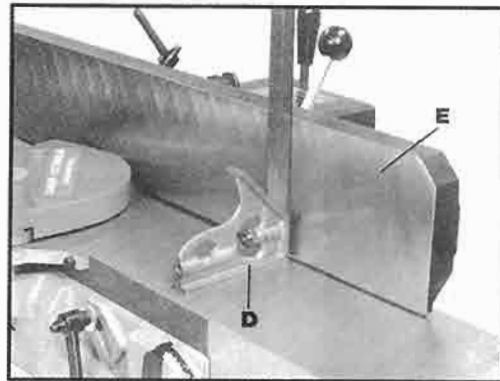

Fig. 20
To check the accuracy of the positive stops, position the fence at 90 degrees to the table by making certain the end of plunger (A) Fig. 19, is engaged in notch in the index collar (B) as shown, and tighten lockhandle (C). Place a square (D) Fig. 20, on the jointer table and against the fence (E).